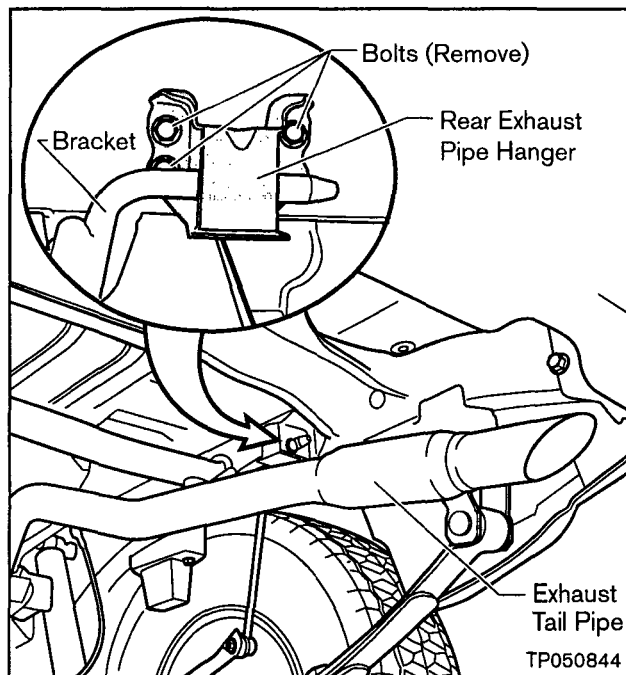

Figure A4
5. Remove three Bolts to disconnect the Rear Exhaust Pipe Hanger from the Frame (see Figure A4).